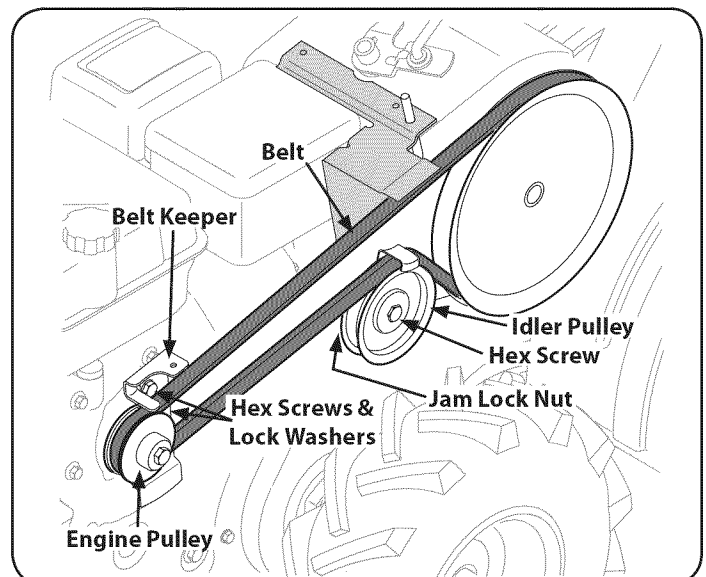

Figure 26
3. Remove the belt keeper assembly located behind the engine pulley by removing the two hex screws and lock washers. See Figure 26.
4. Remove the idler pulley by removing the hex screw and jam lock nut. See Figure 26.
5. Remove the old belt and install the new belt. Follow the instructions in reverse order to re-install the belt keeper and belt cover. See Figure 26.